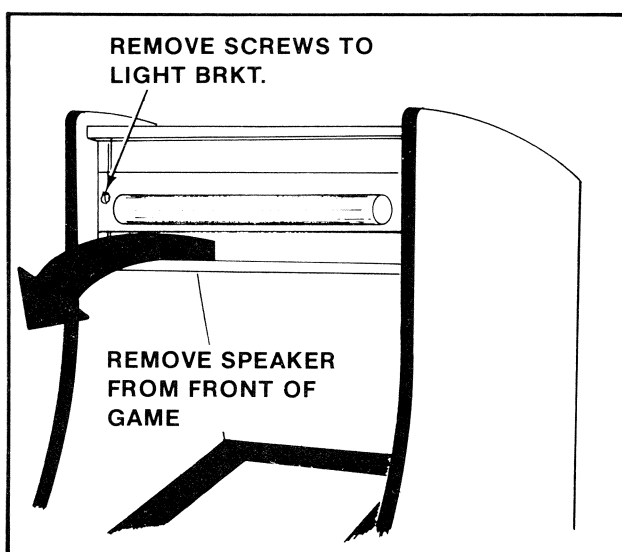

Figure 22 Replacing fluorescent light mounting bracket & speaker — Upright game
- Replacement of the fluorescent tube mounting bracket assembly. See Figure 22.
- Replacing the speaker. See Figure 22.